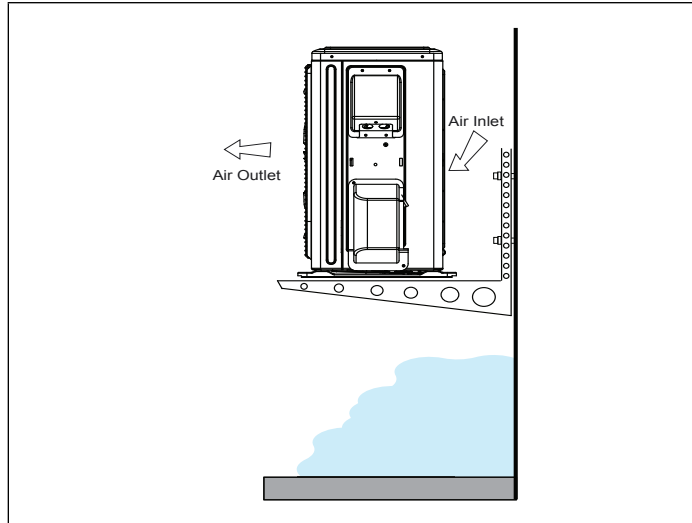

Figure 14. Outdoor Unit on Brackets above Snow Line
- The unit base should be elevated above the depth of average snows as illustrated in “Figure 14. Outdoor Unit on Brackets above Snow Line”.
- When prevailing wind is into the discharge side, then position the wind barrier a minimum 79 inches (2007 mm) from the front of the unit as illustrated in Figure 14. Wind Barrier”.